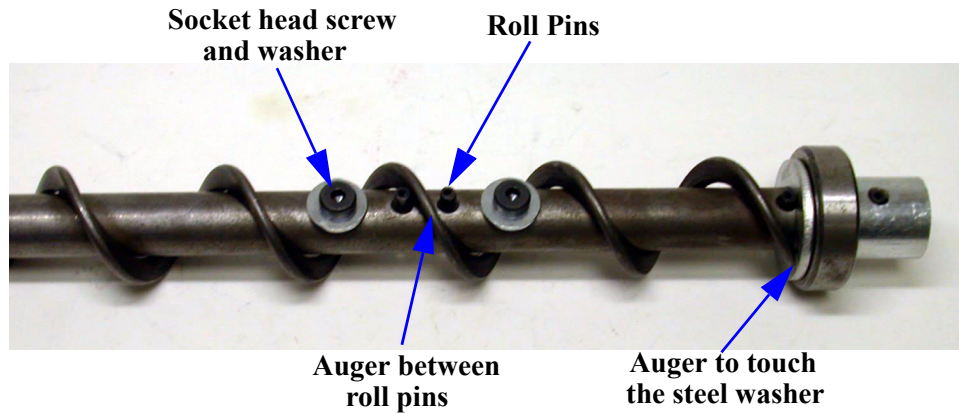

Figure 57. Auger and anchor Bearing Connection
- Insert the Anchor Assembly into the auger until it touches the washer at the back of the anchor. Tighten the setscrews in the center of the anchor until they touch the auger, then tighten a maximum of 1/2 turn. See **Figure 57**.